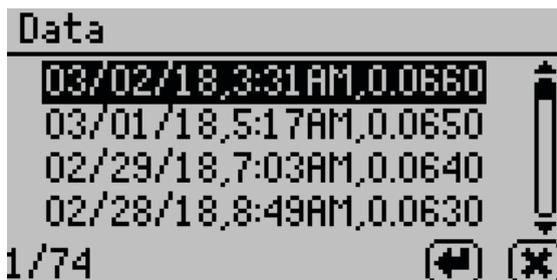

Figure 46 View data
- **View.** Select to view stored measurements with the most recent measurements at the top of the table (Figure 46). Use **UP** and **DOWN** to move through the stored data. Use **LEFT** and **RIGHT** to page quickly through the data.